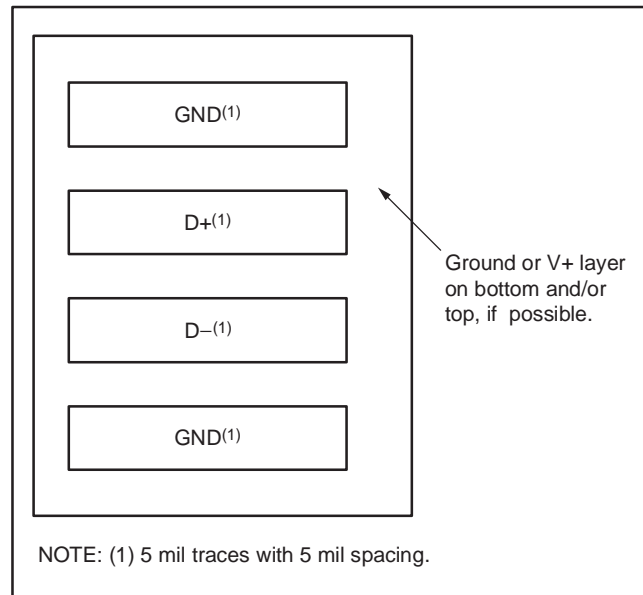

Figure 18. Example Signal Traces
2. Route the D+ and D– traces next to each other and shield them from adjacent signals through the use of ground guard traces, as shown in Figure 18. If a multilayer PCB is used, bury these traces between ground or VDD planes to shield them from extrinsic noise sources. 5 mil PCB traces are recommended.